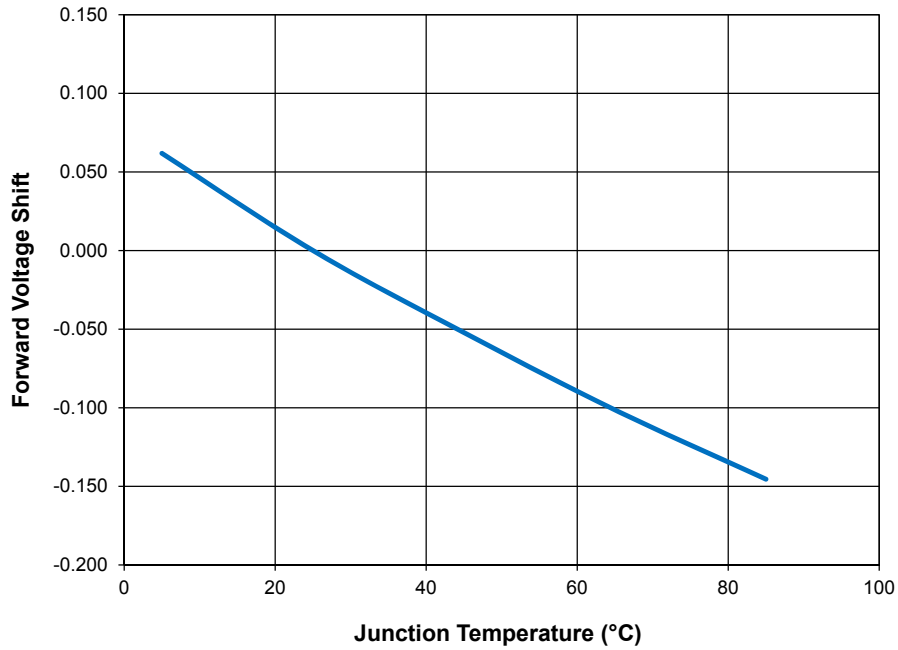

Figure 11.
4. Dynamic resistance is the inverse of the slope in the I_f vs. V_f curve and is measured at $I_f = 1000\text{ mA}$ (see Figure 11).
Note for Figure 11: